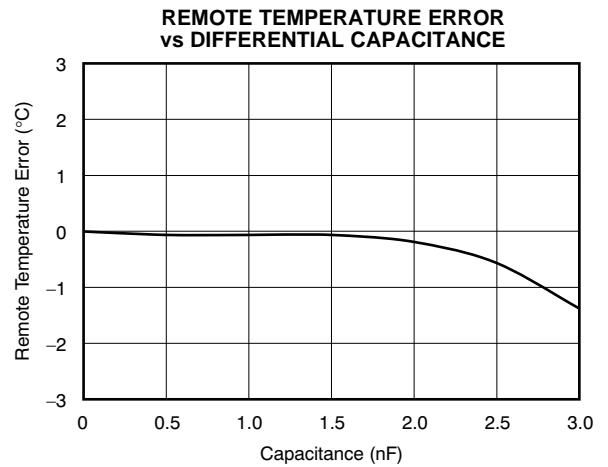

Figure 6.
(1) Diode-connected configuration provides better settling time. Transistor-connected configuration provides better series resistance cancellation.
(2) R_S (optional) should be $< 1.5\text{k}\Omega$ in most applications. Selection of R_S depends on application; see the Filtering section.
(3) C_{DIFF} (optional) should be $< 1000\text{pF}$ in most applications. Selection of C_{DIFF} depends on application; see the Filtering section and Figure 6, *Remote Temperature Error vs Differential Capacitance*.
(2) R_S (optional) should be $< 1.5k\Omega$ in most applications. Selection of R_S depends on application; see the Filtering section.
(3) C_{DIFF} (optional) should be $< 1000pF$ in most applications. Selection of C_{DIFF} depends on application; see the Filtering section and Figure 6, Remote Temperature Error vs Differential Capacitance.
(4) TMP422 SMBus slave address is `1001 100` when connected as shown.
The TMP421/22/23 tolerate differential input capacitance of up to 1000pF with minimal change in temperature error. The effect of capacitance on sensed remote temperature error is illustrated in Figure 6, *Remote Temperature Error vs Differential Capacitance*.